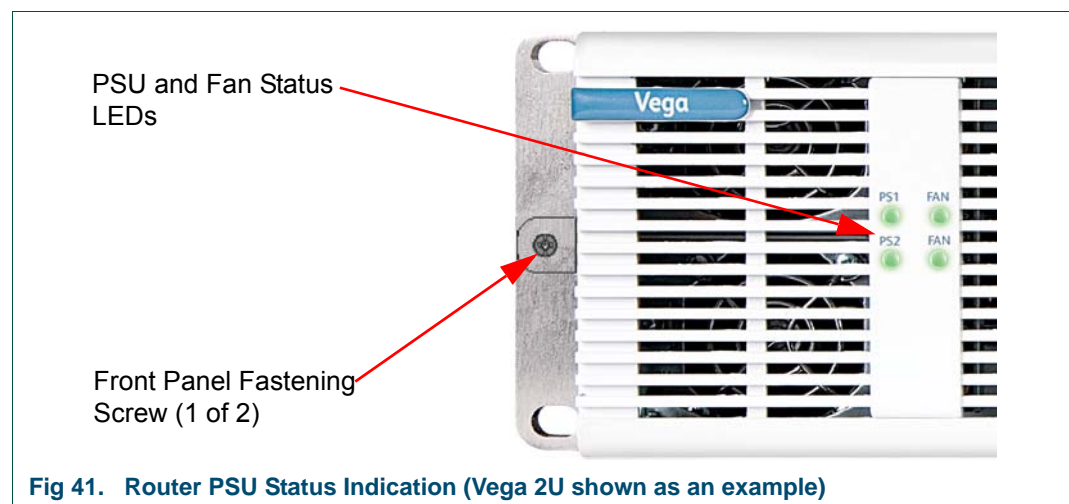

Fig 41. Router PSU Status Indication (Vega 2U shown as an example)
1. If a Power Supply or Power Supply fan fails on the Vega Video Router router the Status LEDs on the left of the Vega Video Router front panel will indicate which has failed (Figure 41 and Table 19.).
11. Tighten the captive front panel fastening screws on the left and right of the router (see Figure 41) to lock the front panel.